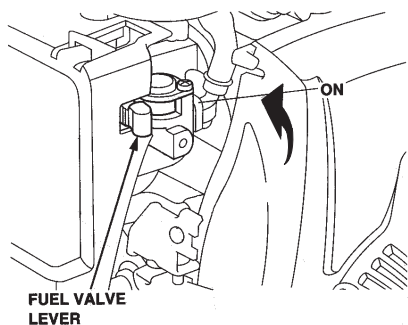

Figure 9. Engine Fuel Valve Lever (ON Position)
1. Place the engine *fuel valve lever* (Figure 9) to the "ON" position.